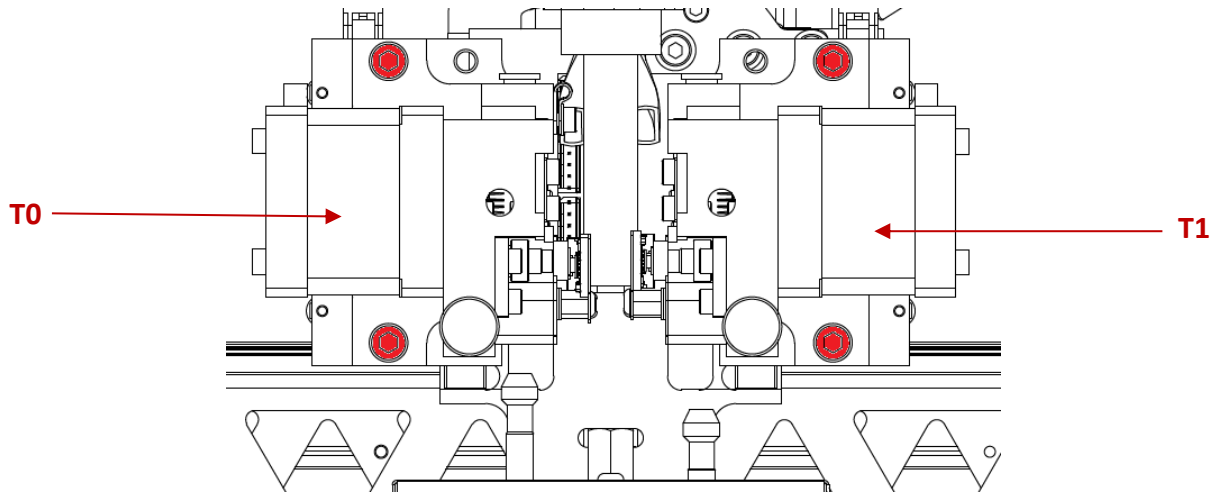

Fig. 84 Removing extruders
12. Unscrew two extruder fixing screws securing the T0 extruder to the extruder seat, located above and under the extruder (Fig. 84) and remove the extruder out of the printer. Put the screws away. Repeat the same procedure for the T1 extruder.
16. Screw the two previously unscrewed extruder screws securing the T1 extruder to the extruder seat, located above and under the extruder (Fig. 84). Do not tighten the screws at this stage, leave 1-2 turns of screw slack.
18. Screw the two previously unscrewed extruder screws securing the T0 extruder to the extruder seat, located above and under the extruder (Fig. 84). Do not tighten the screws at this stage, leave 1-2 turns of screw slack.